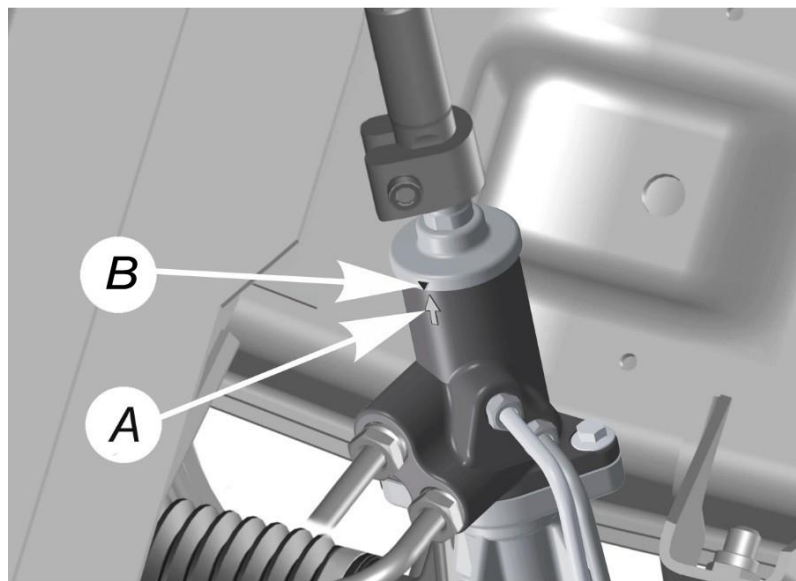

Fig. 4.12. Adjustment marks on the steering gear: A – mark on the distributor housing (arrow cast on the distributor housing); B – mark on the input shaft cover
- fix the steering wheel in the middle position (two spokes are located horizontally), while the steering gear must also be set to the middle position (arrow B (Fig. 4.12) on the steering input shaft cover must coincide with arrow A, cast on the distributor housing);